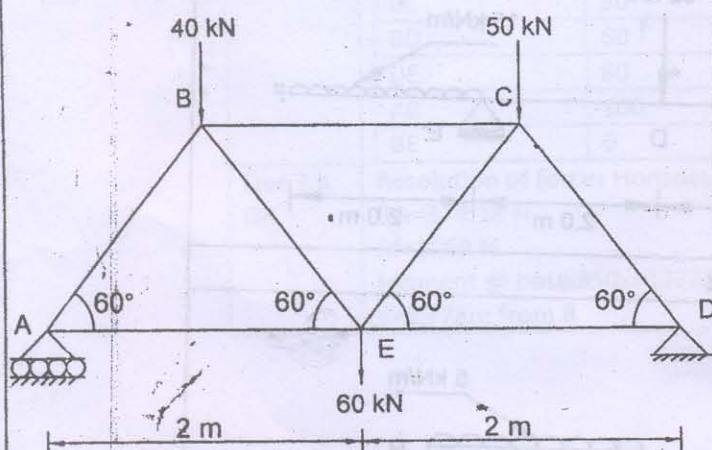

Fig. 5
- Que. 3.a Determine the forces in all members of the truss shown in Fig.5. 07